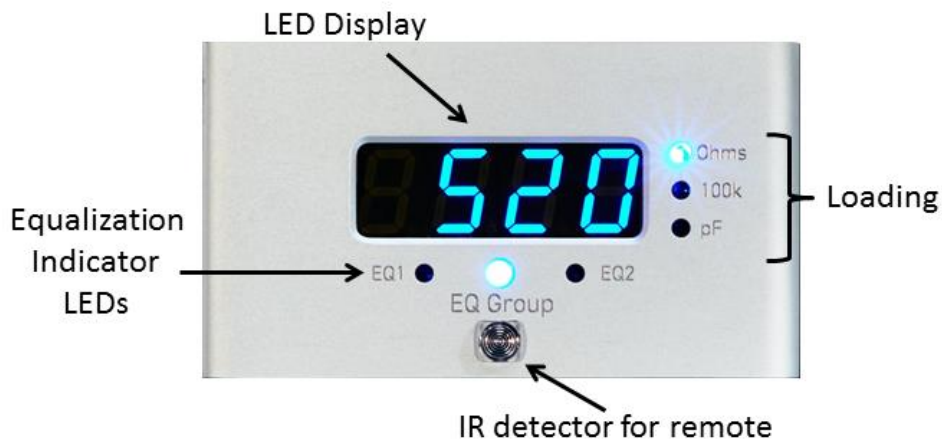

Figure 3A – Center-upper Section
2.2.3 Center-Upper Section (See Figure 3A)